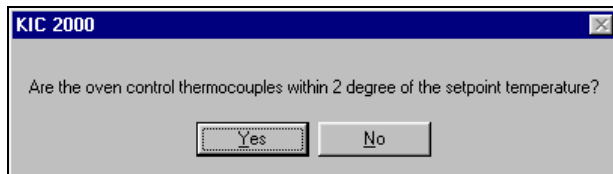

Figure 56
- After you select on the *Profile Start* button the software will ask if all the oven control thermocouples are within 2 degrees of the set point value. See Figure 56.